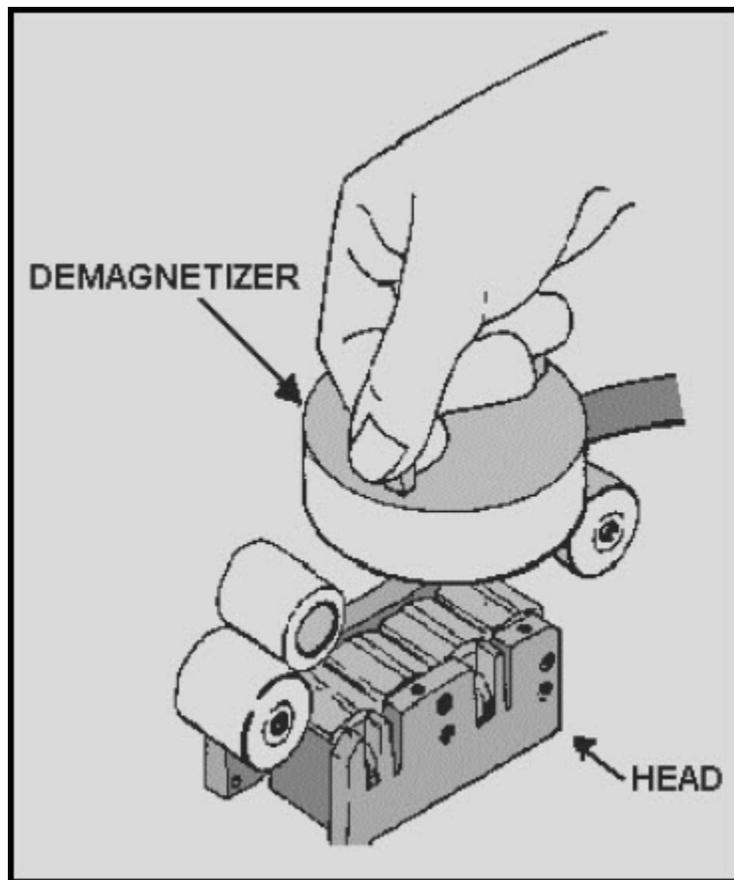

Figure 3-6 Demagnetizing magnetic heads with a degausser
4. Move the degausser back and forth across the head for 15 to 30 seconds. Figure 3-6 shows how this looks.